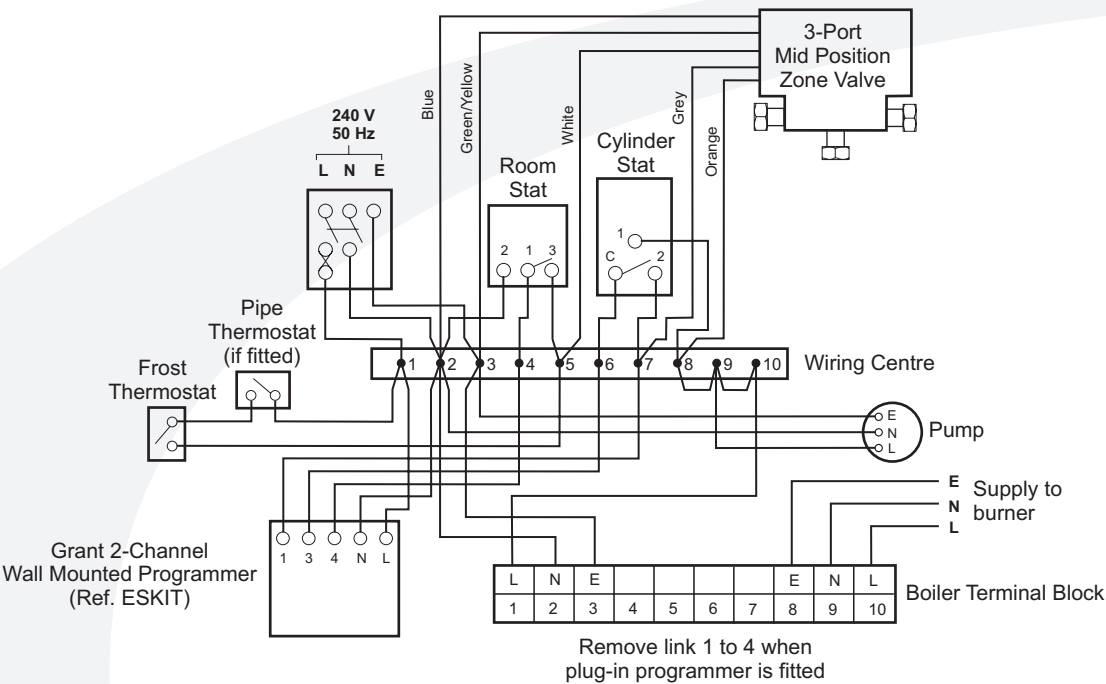

Figure 8-1: Kitchen/Utility models with 3-port valve control system
Refer to Figures 8-1 to 8-5 for typical control system wiring diagrams for all models.
It is recommended that the boiler should be connected to a switched mains power supply from a programmer or control system. If a Grant plug-in programmer is used, a permanent 240 V mains supply (fused at 5 Amp) must be taken to the boiler. A three core cable is required to connect the boiler terminal block to the live supply. Refer to Figures 8-1 to 8-4 for typical control system wiring diagrams.
5. Connect the control system wiring to the boiler terminal block. Refer to Figures 8-1 to 8-4 for details of typical system control wiring diagrams.
Refer to Figures 8-1 to 8-5 (as appropriate) for connection details.